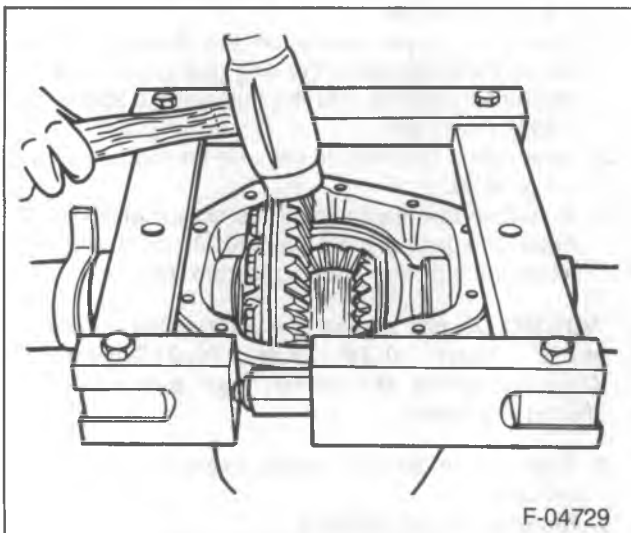

Figure 40—Installing the Differential Case
- Use a rawhide hammer to seat the differential assembly in the axle housing (figure 40).
19. Install the bearing caps (18) in their original positions.
20. Install the bearing cap bolts (19).